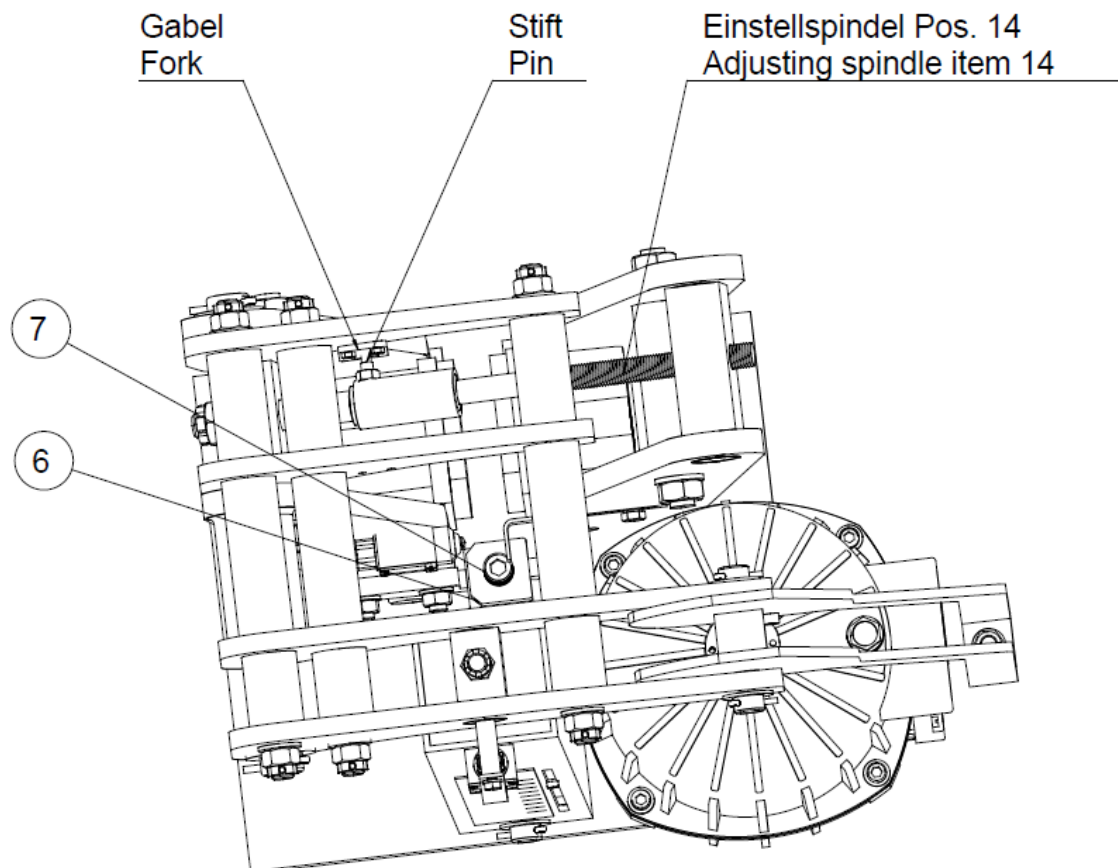

Fig. 8.3
There do exist two different versions of the brake. FEM with manual adjustment pad wear and FEA with automatic adjustment of the pad wear. The FEA version is clearly recognizable. The adjust spindle item 14 has a pin at the side, see Fig. 8.3.
- For the purpose of changing the brake pads, loosen the both screw item 3 both side loosen item 6 and turn the adjusting set screw item 7 max. revolutions back.
- Loosen the fork Fig. 8.3 and turn the adjusting spindle item 14 back until you have enough free space to mount the new brake pads.
- Now you can loosen srews item 3 the old brake pads and you can move the brake pads topward for easy exchange. The new pads mount in the same way fix the item 3
- Reassemble the fork Fig. 8.3 and activate the brake multiple times the automatic process will start and adjust the clear distance between the brake pads of approx. 2 mm.
- It is achieved by means of a self-adjusting mechanism with a ball transfer unit that provides for an equal clearance of the linings from the disc surface **INSTALLATION:** At set brake, adjust the set screw item 7 until it gets in touch with the ball. Afterwards, lock the set screw item 7 by means of its grub screw item 6.